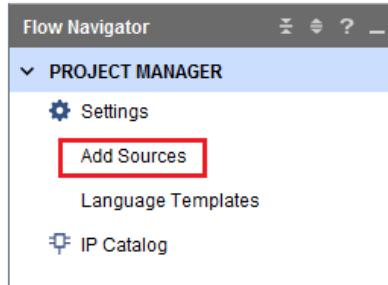

Figure 2.12: Add Sources command
1. In the Vivado **Flow Navigator**, click the **Add Sources** command (**Project Manager** option), see Figure 2.12.